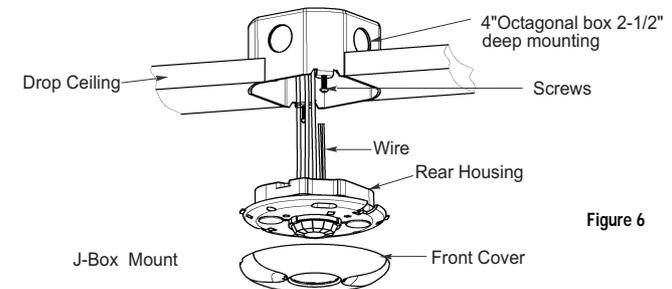

Figure 6
7. Snap the front cover onto the sensor (see Figure 6)